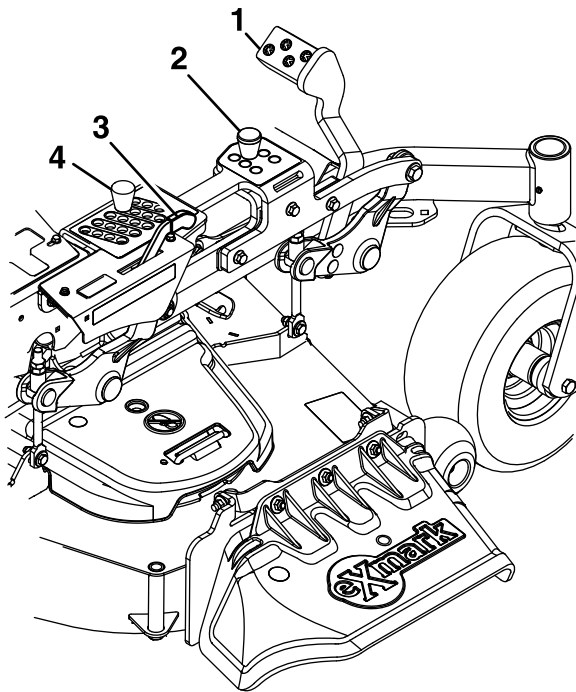

Figure 16
4. Raise and lock the deck to the 5 1/2 inch (14 cm) transport position (see Figure 16).